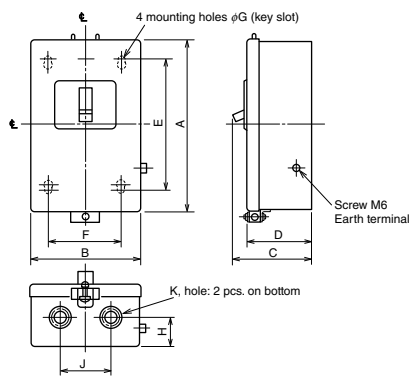

Fig. 1 Type S
If an automatic reset spring charge type (1) is required, the user must wire the device in accordance with the external connection diagram shown in Fig. 1 in "Cautions for use" in (2).